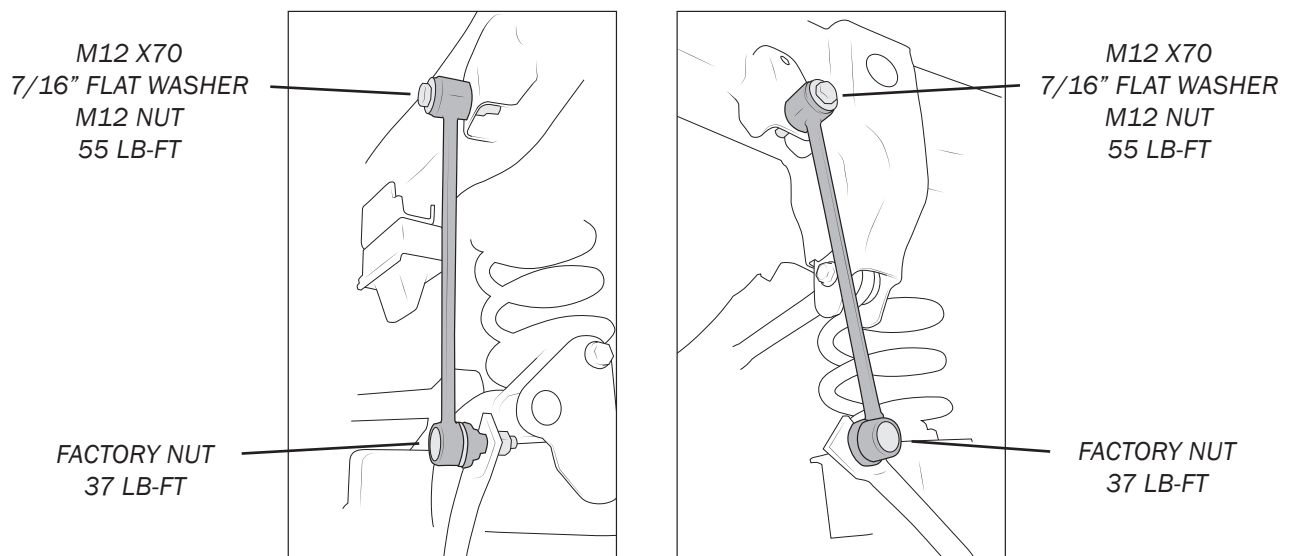

Figure 14
8. Install AEV sway bar links with the factory nut at the axle end and the supplied hardware at the frame Torque as specified (fig. 14).